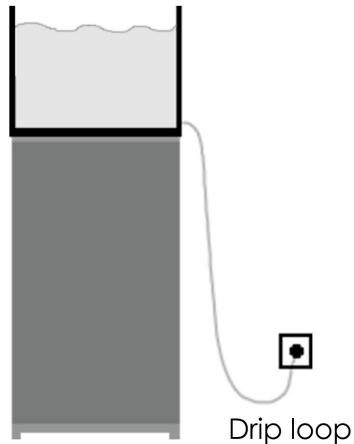

Fig. 1
- b.** To avoid the possibility of the appliance plug or receptacle getting wet, position the aquarium stand and tank to one side of a wall mounted receptacle to prevent water from dripping onto the receptacle or plug. You should create a "drip loop" (see Figure 1) for each cord connecting an aquarium appliance to a receptacle. The "drip loop" is that part of the cord below the level of the receptacle, or the connector. Use an extension cord, if necessary, to prevent water traveling along the cord and coming into contact with the receptacle. If the plug or receptacle does get wet, DO NOT unplug the cord. Disconnect the fuse or circuit breaker that supplies power to the appliance. Then unplug the device and examine for presence of water in the receptacle.